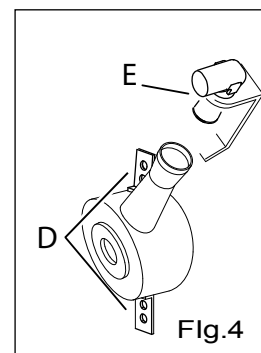

Fig. 4
- unscrew the pressure intake screw (Fig. 4);
- Unscrew the fixing screws of the burner (Fig. 4/D) and the connection to the supply (Fig. 4/E)